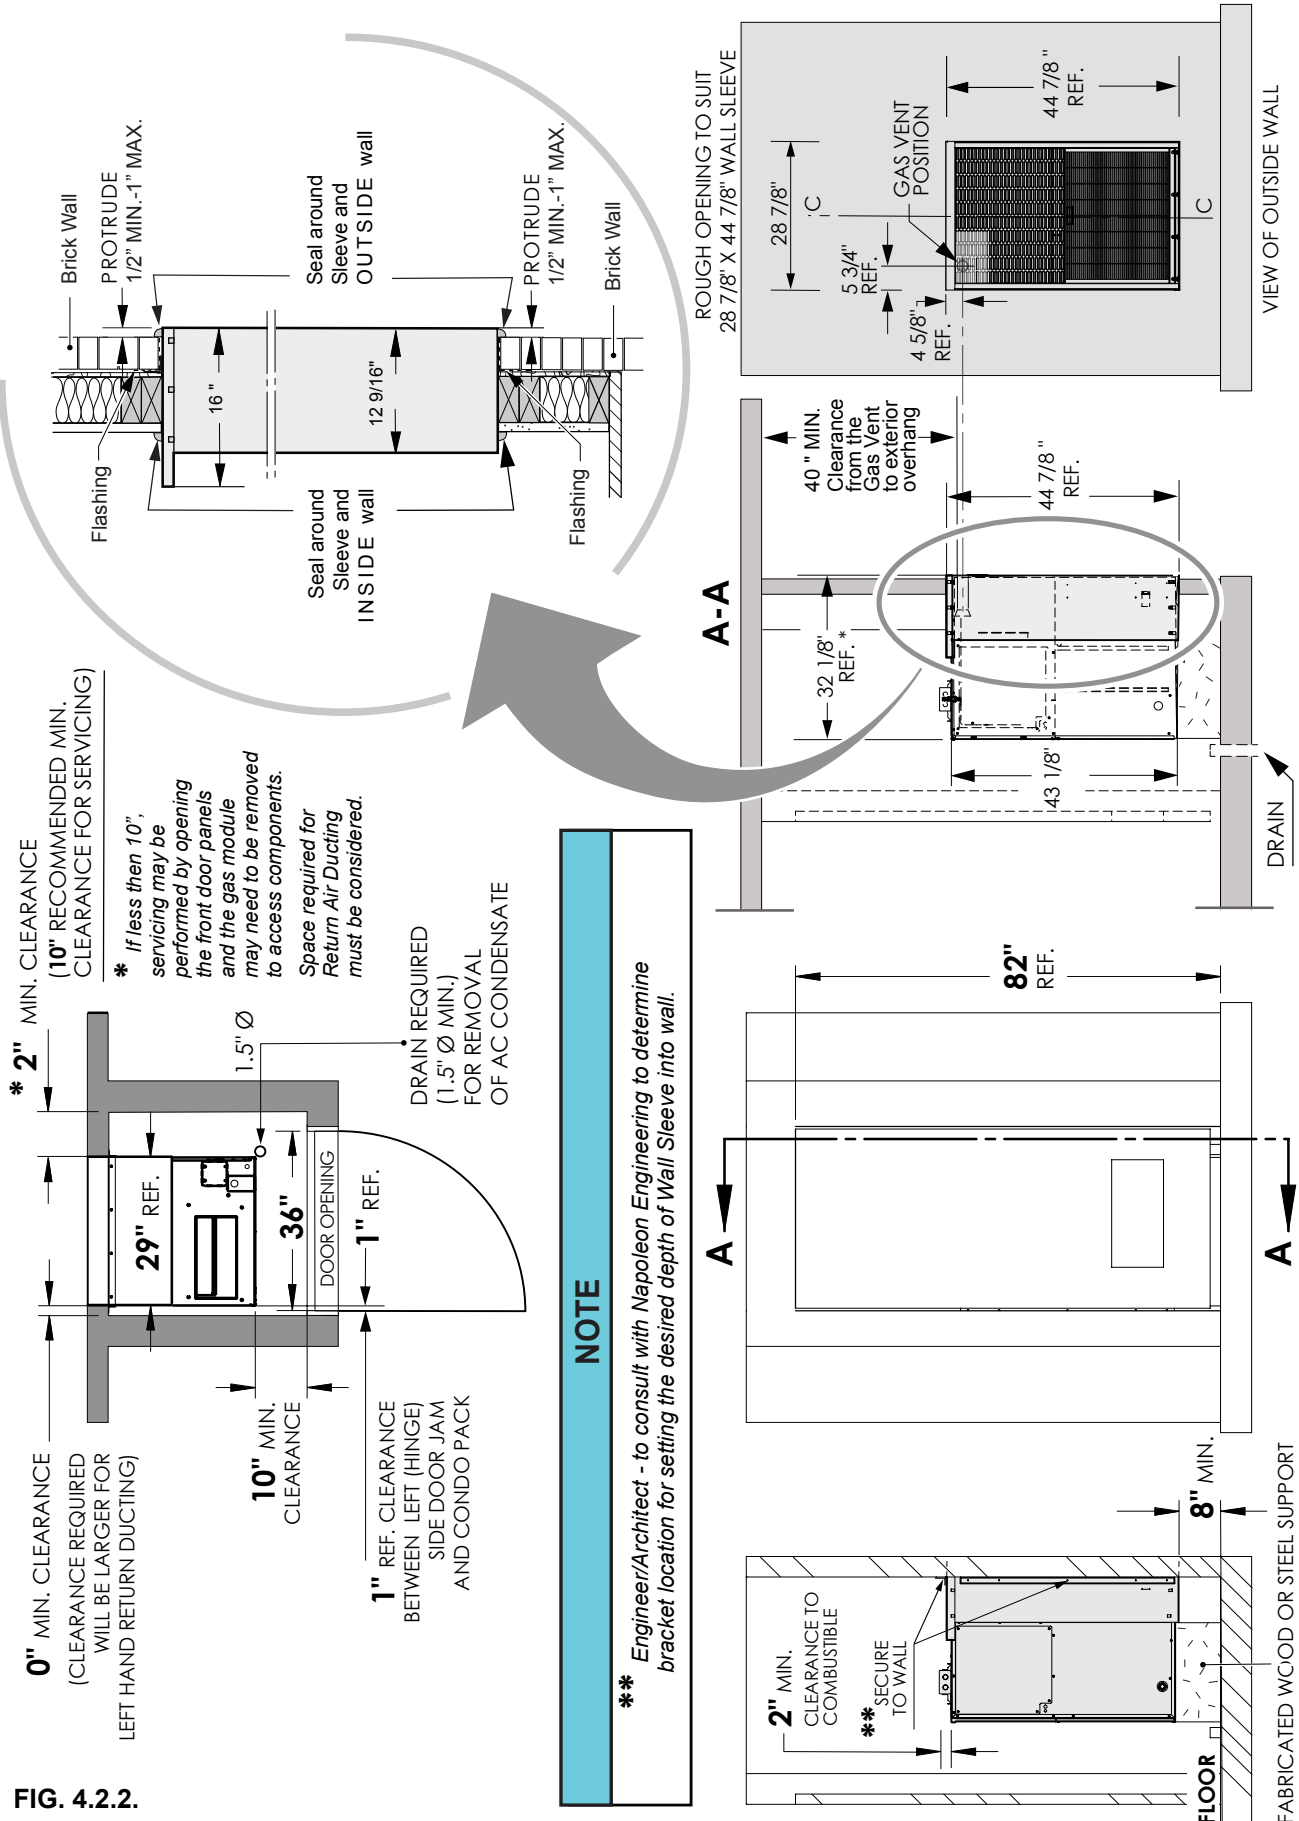

FIG. 4.2.2.
- Do not install directly on carpeting, tile, or other combustible material other than wood flooring. The grille side of the unit should protrude minimum 1/2” but no more than 1” (maximum) from the face of the building and should not be obstructed by foreign objects. Refer to FIG. 4.2.2.